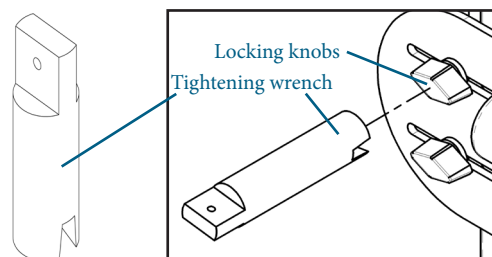

Fig. 10b
- Wrench for tightening the locking knobs (Fig. 10b)